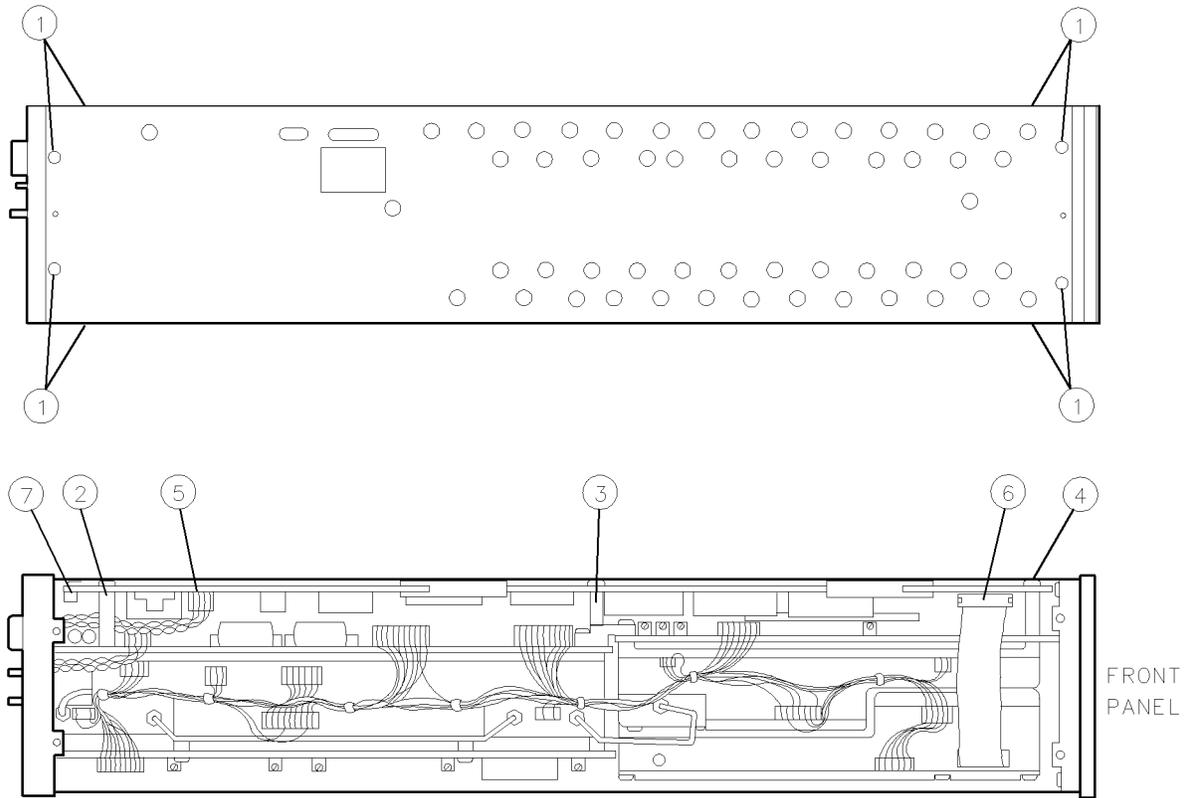

Figure 9-1. A1A1 Host/Processor Removal/Replacement
1. Remove the module’s cover by removing the eight screws ① (four on top, two on each side) illustrated in Figure 9-1.
2. Remove three screws ②, ③, and ④ and their spacers from the A1A1 host/processor.
3. Disconnect wire W11 from the A1A1 host/processor’s connector ⑤.
4. Carefully work the controller assembly out of its two motherboard connectors. When it is just out of the connectors, but still within the frame, disconnect W14 ⑥.
5. Carefully move the controller assembly away from the frame, taking care not to damage the W20 HP-MSIB flex-print cable ⑦. Disconnect the flex-print cable and put the assembly on a nonconductive, static-protected surface.
1. Remove the module's cover by removing eight screws ① (four on top, two on each side) illustrated in Figure 9-1.
2. Remove one screw ③ with a star washer, and remove the flat washer and green spacer from the center top of the A1A2 1/4 MB RAM/ROM.